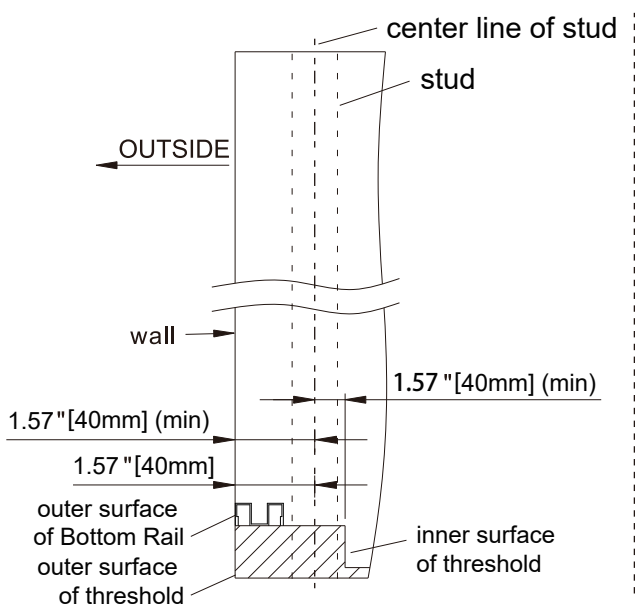

Fig 2.1
IMPORTANT: Using a stud finder, ensure the wall intended to hold the door has a stud at the installation point. A stud in this location must be identified to support the support bar in order to proceed with the installation. If there is no stud in the shown area, we recommend employing a qualified contractor to install one. (Fig 2.1)
1. Using a **pencil** and **stud finder** to mark the **center line of stud**. Mark the **center line of stud** on one side as measurement "A" then mark the **center line of stud** with same measurement on the other side. Make sure the distance between **center line of stud** and the **inner surface of threshold** is bigger than **1.57" [40mm]** and the distance between **center line of stud** and the **outer surface of threshold** is bigger than **1.57" [40mm]**. (Fig 2.1)